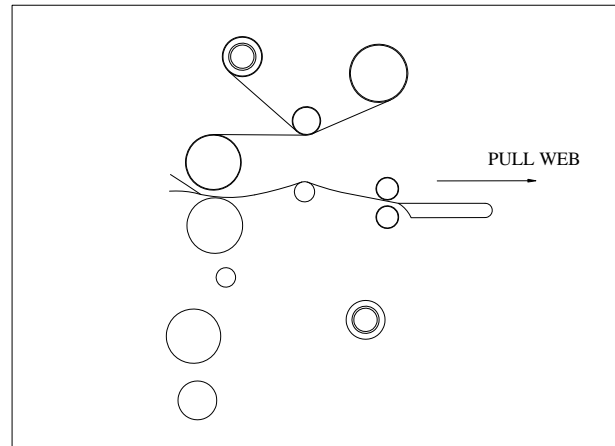

FIGURE 29
6. Carefully grab hold of the web (top and bottom film), from the back operating position and pull towards you (Fig. 29).